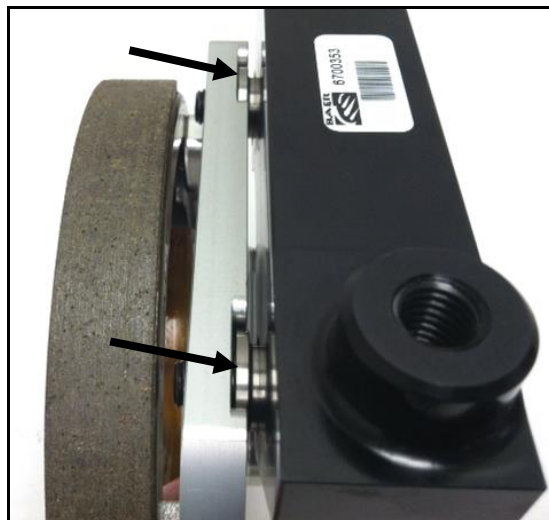

Figure 8: Location of shims
4. Install the appropriate shims (between the slider pin head and park brake assembly), removing one bolt at a time, and snug the same bolts for fit check. See Figure 8 for reference. Install the caliper again for clearance check.